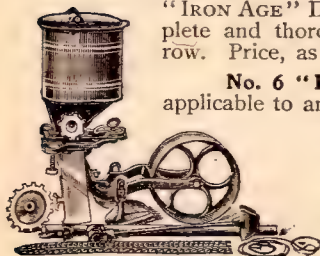

Fig. 133
**No. 4 "IRON AGE" Drill Seeder Attachment** can be easily applied to any form of our "IRON AGE" Double Wheel Hoes, and when attached makes the tool a complete and thoroughly reliable Seed Drill for sowing seed in a continuous row. Price, as shown in Fig. 133 with all necessary parts, \$3.00
**The No. 17 "IRON AGE" Drill Seeder Attachment** may be easily and quickly applied to or detached from our No. 20. When applied it is one of the best seed drills on the market for sowing all garden seeds. This attachment is very similar to our No. 4 "IRON AGE" Seed Drill attachment, shown on previous page, Fig. 133. Price with all necessary parts, \$3.00